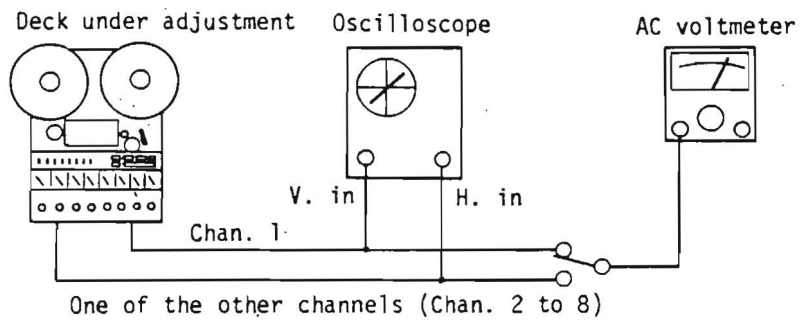

Fig. 1
3. Connect test equipments to the deck as shown in Fig. 1 for azimuth adjustments.